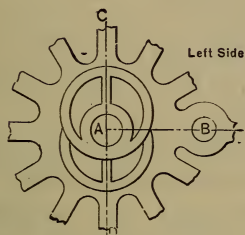

Fig. 200.
*A. As seen in Fig. 200, where *A* is the axle, *B* the crank pin on the forward center, and *CD* the center line of eccentrics.*